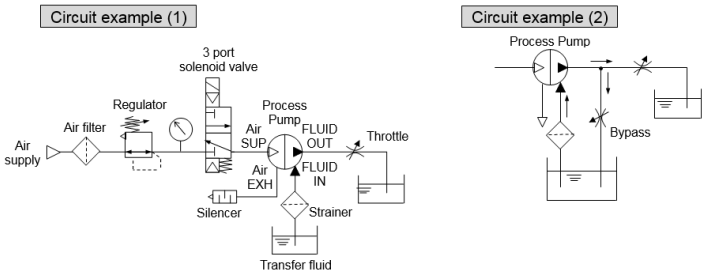

Fig 2. Automatically Operated Circuit Examples
Refer to [Fig. 2] for circuit examples.
<Starting and Stopping> Refer to circuit example (1) [Fig. 2].
- To adjust the flow rate from the discharge port <FLUID OUT>, use the throttle connected to the discharge side. Refer to circuit example (1) [Fig. 2].
- When operating with a discharge flow rate below the specification range, provide a by-pass circuit from the discharge side to the suction side to ensure the minimum flow rate inside the process pump. With a discharge flow rate below the minimum flow rate, the process pump may stop due to unstable operation. Refer to circuit example (2) [Fig. 2] (Minimum flow rates: 56-PA3##0 1L/min, 56-PA5##0 5L/min).